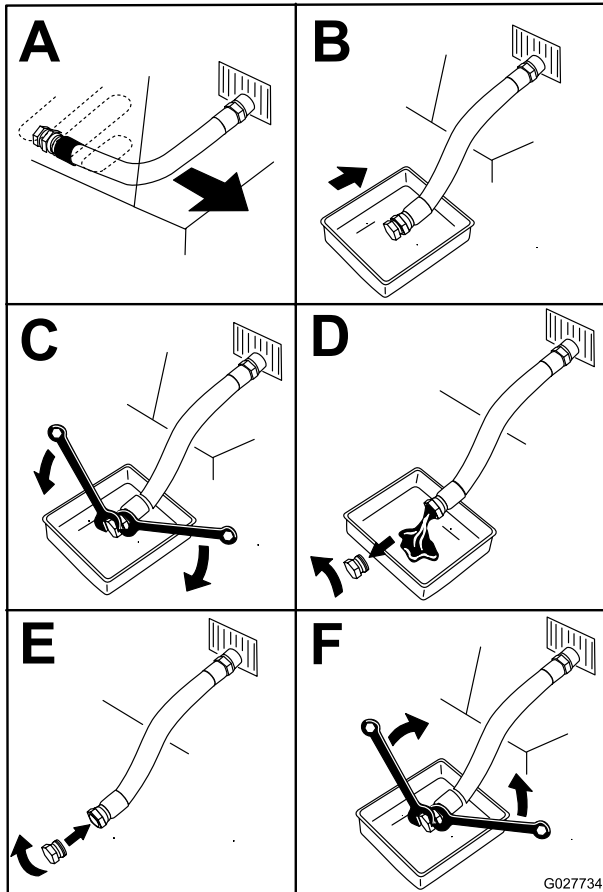

Figure 51
4. Shut off the engine, remove the key, and wait for all moving parts to stop before leaving the operating position (Figure 51).